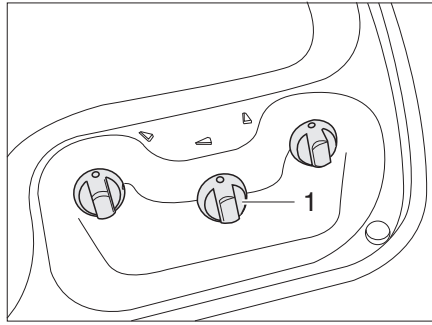
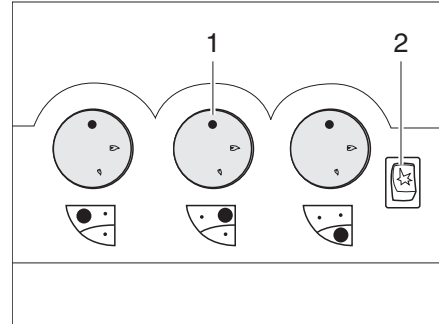

Fig. 341 Operating controls for gas cooker (without piezo ignition button)
Fig. 342 Operating controls for gas cooker (with piezo ignition button)
- Turn the control knob (Fig. 341,1 or Fig. 342,1) on the burner you wish to use to the ignition position (large flame).
- If an ignition button (Fig. 342,2) is present: Create a spark by pushing the ignition button.